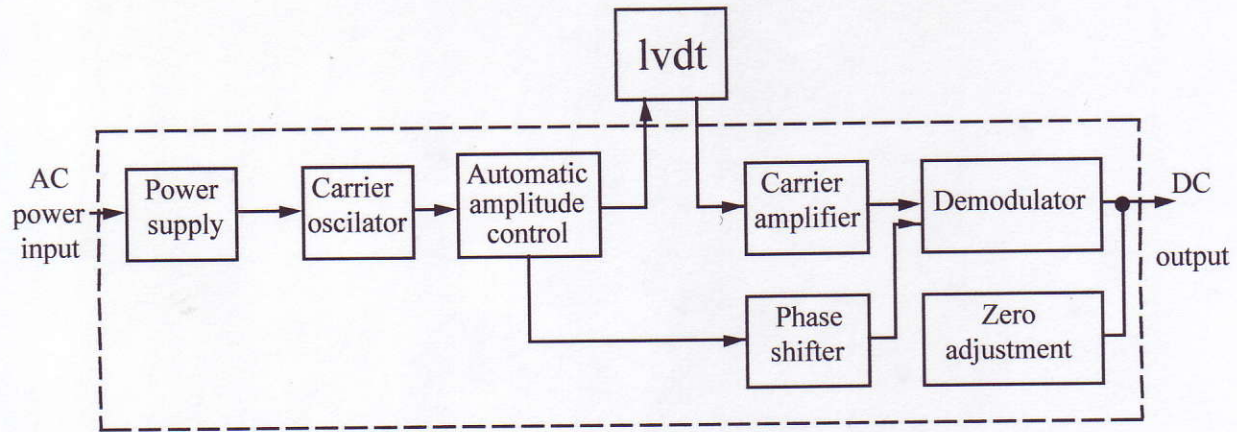

Fig. 4 LVDT support electronics diagram.
What is the basic instrumentation? Although an LVDT is an electrical transformer, it requires AC power of an amplitude and frequency quite different from ordinary power lines to operate properly (typically 3 V rms at 2.5 kHz). Supplying this excitation power for an LVDT is one of several functions of the instrumentation, which is also known as LVDT signal conditioning equipment. Other functions include converting the low level (AC) output of the LVDT into high level (DC) signals that are more convenient to use, decoding directional information from 180° output phase shift as the core of an LVDT moves through the null point, and providing an electrically adjustable output zero level. Figure 4 shows typical diagram representation of LVDT signal conditioning electronics.